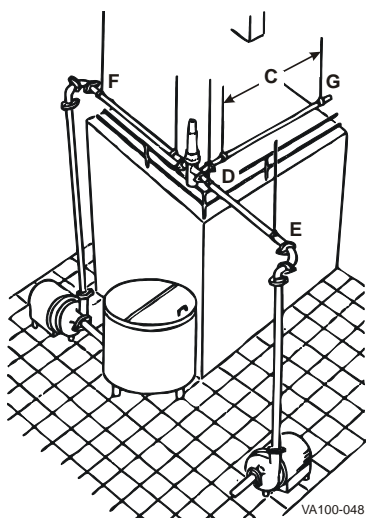

Figure 1: Pipeline Support
1. Install supports at least every 10 feet (3 meters) on straight runs of piping (Figure 1, item C).
2. Install supports on both sides of the valves as close as possible to the connections (Figure 1, item D).
3. Install supports at each change of pipeline direction (Figure 1, item E and F).
4. For pipelines passing through walls, floors or ceilings, provide at least 1 inch (25 mm) of clearance around the pipe to allow for expansion and contraction (Figure 1, item G).